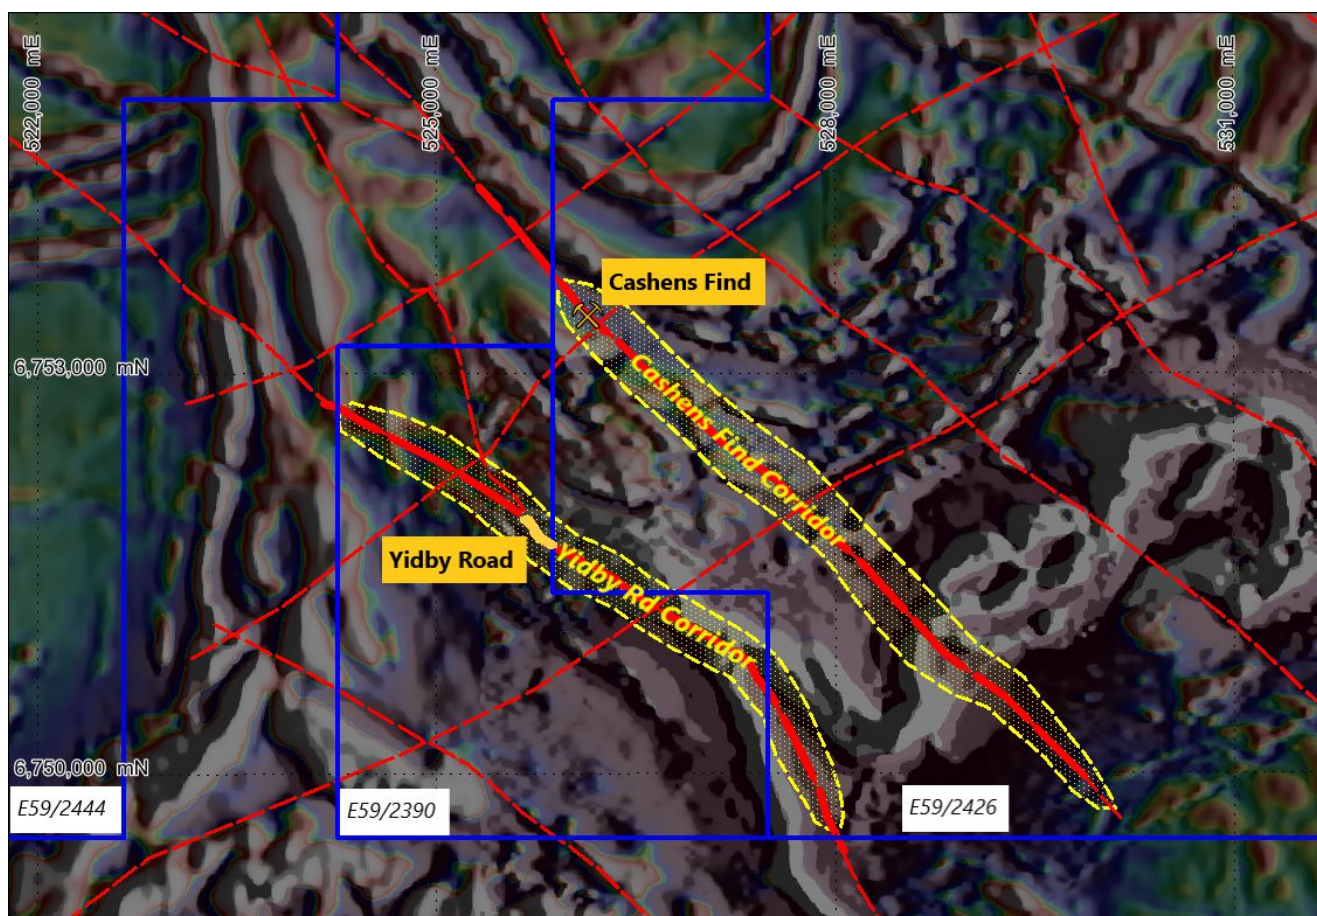

Figure 4: Regional 1st Vertical Derivative (1VD) magnetics with interpreted structures and prospect locations
- **Two major north-west trending structures identified associated with the Yidby Road and Cashens Find mineralised zones (see Figure 4), each up to 5 km strike-length within SRN's tenements and largely un-tested**
There is a strong association between the gold mineralisation and the massive veining associated with the quartz-feldspar intrusive porphyry. The porphyry has likely introduced or acted as a brittle conduit for gold bearing mineralised fluid into the surrounding high magnesium basalts and talc-chlorite schistose ultramafic rocks. Historical drilling intercepted the mineralised porphyry, initially by Normandy Exploration Pty Ltd in 1996-1998, and then by Monarch Gold Mining Company Ltd in 2006, producing the previously reported historical results. No drilling has taken place at the Yidby gold Project in the last 14 years. The recent RC drill results show both broader zones of mineralisation with higher grade intersections than the historical drilling. Further, the mineralisation is open down dip of the shallow intersections and along the north-westerly strike, that is interpreted to be part of a regional corridor that may continue for up to 5km along strike within SRN's tenements (see Figure 4).
At the Cashens Find Prospect, situated just under 2km to the north of Yidby Road Prospect, three RC holes were drilled targeting the historic workings (Figure 2). The main part of the workings hosts gold mineralised veins and shears located adjacent to a felsic porphyry. The drilling beneath the main workings was successful in replicating historical drilling results and attained a significant **9m @ 4.17 g/t Au from 18m including 3m @ 9.41 g/t Au** in CHRC001. Each of the three holes intersected upwards of 2 g/t Au within the westerly trending mineralised shear, that is interpreted to be part of a regional corridor that may continue for up to 5km along strike within SRN’s tenements (see Figure 4).
Preliminary interpretation of regional magnetic imagery (see Figure 4 below) has highlighted a series of northwest trending structures that correspond with both the Yidby Road and Cashens Finds prospects. The Yidby Road structure has truncated the axis of a major antiform, representing a structural high that is considered highly prospective for gold mineralisation.